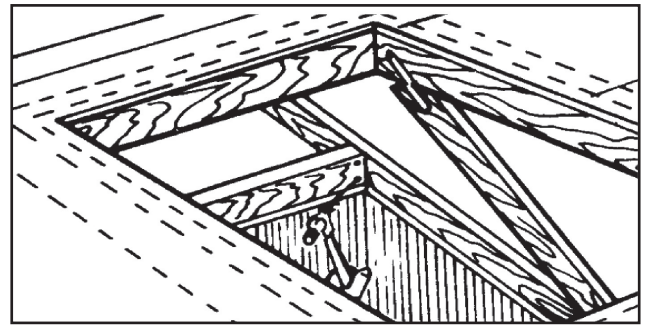

Figure 1
**Step 6** - Frame out the inside of the roof opening with double headers at the top and bottom of the opening. Butt 2x4's against the outside of the truss or rafters that frame the opening, and nail into place to provide extra stability when mounting the skylight. Any rafter or truss that runs through the skylight opening must be cut to meet local building codes. (Figure 1).